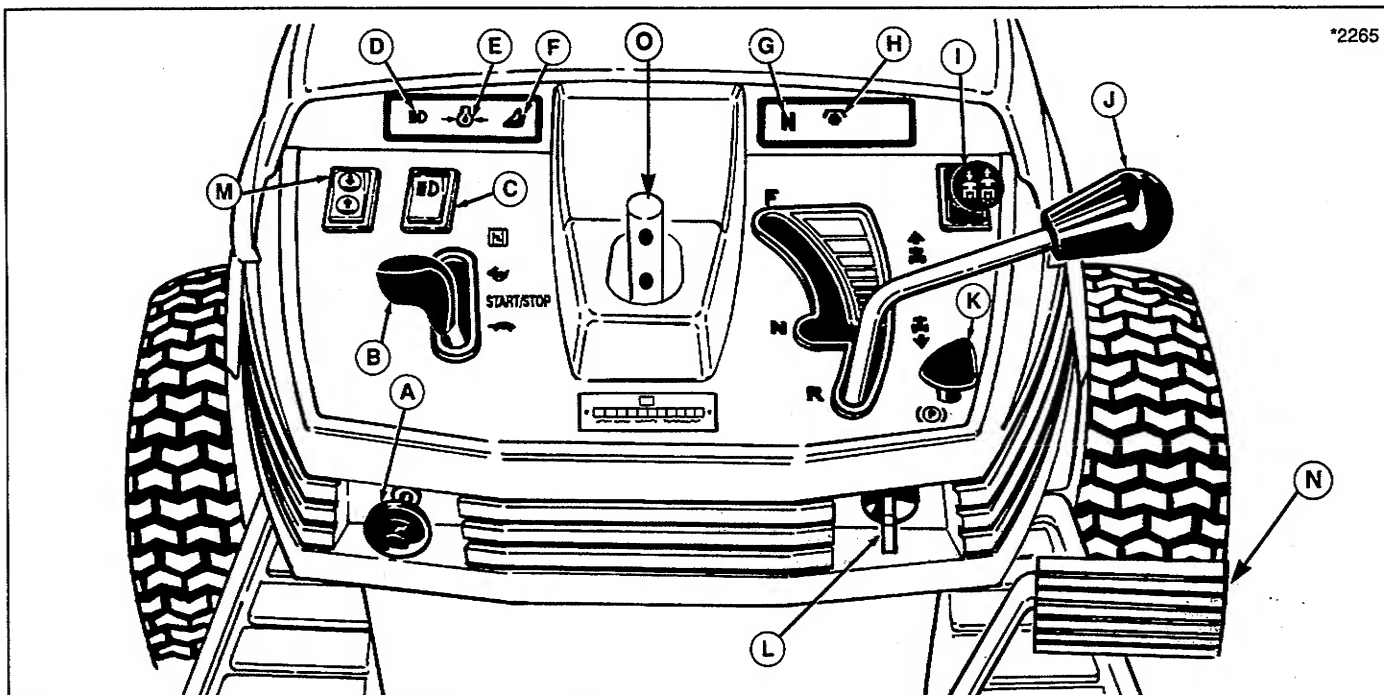
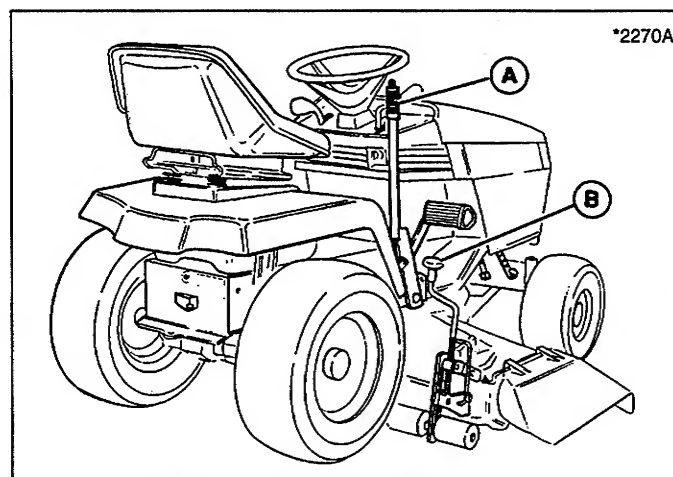
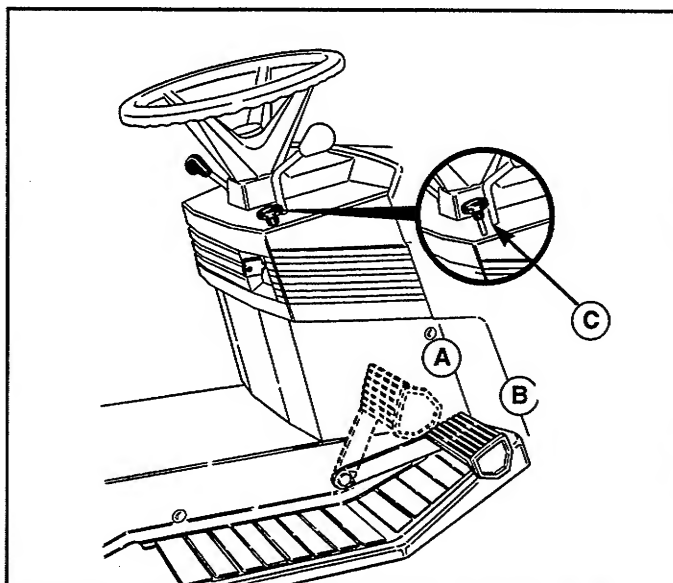
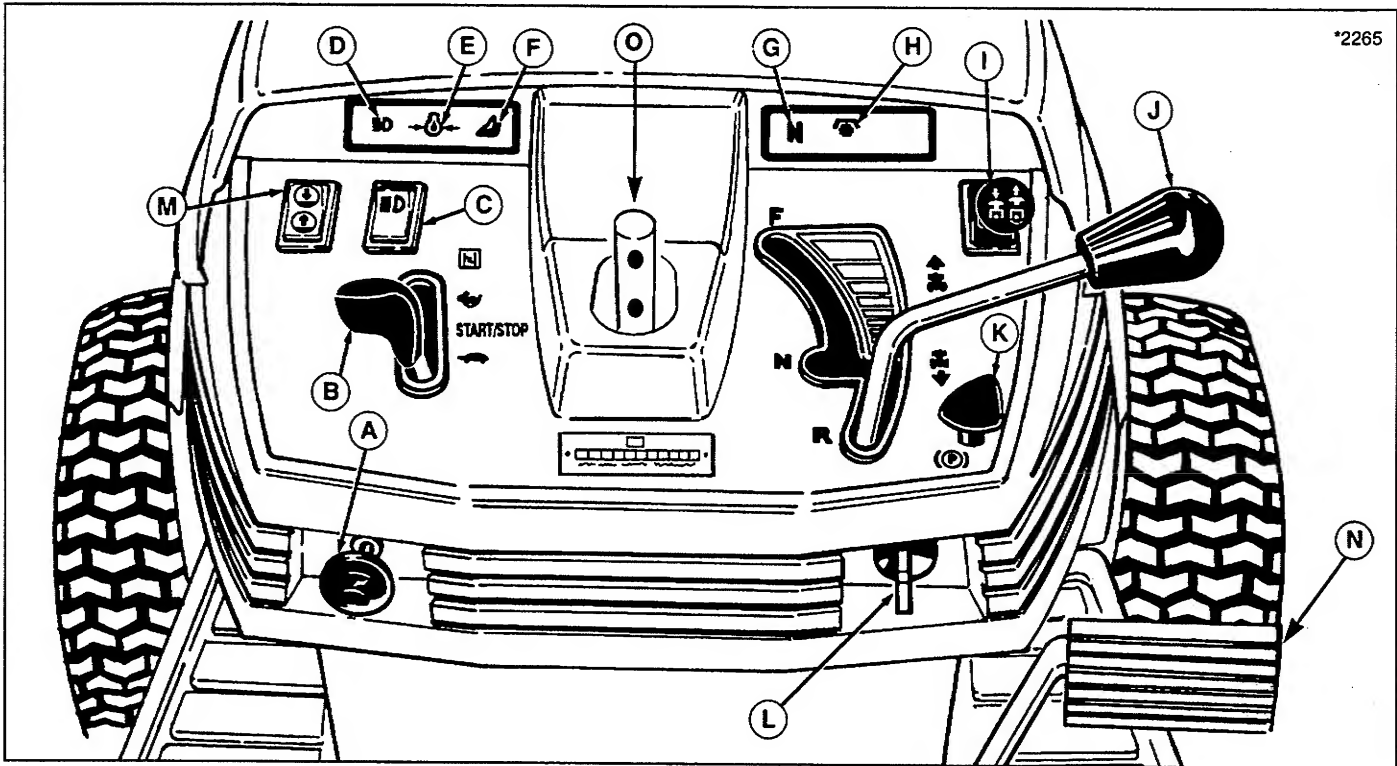

Figure 2. Tractor Controls (Hydro Model Shown)
Figure 10. Mower Operation - Manual Lift
Figure 11. Clutch/Brake Pedal and Parking Brake (Brake Pedal Only - Gear Models)
Figure 13. Tractor Controls (Hydro Model Shown)
- A. Neutral Indicator Light (G, figure 2) should go on with transmission lever in neutral gate and should go out when lever is moved to either the forward or reverse gate.
- B. PTO Indicator Light (H, figure 2) should go on and off with operation of PTO switch.
- C. Oil Pressure Indicator Light (E, figure 2) should be on and should go out immediately after engine starts.
- D. Operator Seated Indicator Light (F, figure 2) should go on when operator is present in the seat and should go off as operator rises out of the seat.
2. Place mower in the lowest cutting position using the mower height adjuster (B, figure 10). Place the mower lift lever (M, figure 2 or A, figure 10) in the lowest position, also. Slide mower deck under right side of tractor so that mower hitch is aligned with front tractor hitch.
- Place mower in the lowest cutting position using the mower height adjuster (B, figure 10).
- Place the mower lift lever (A, figure 10 or M, figure 13) in the lowest position.
- When traveling to or from the work site, fully raise the mower using the mower lift lever (A, figure 10 or M, figure 13). At the work site, lower mower using the lift lever.
- Use the mower height adjuster (B, figure 10) to set the proper mowing height. See Mowing Patterns & Tips section for cutting height recommendations.
1. See figure 11. Depressing the pedal to position A disengages the transmission drive and, when in a forward gear, returns the transmission control lever to neutral. Fully depressing the pedal to position B applies the tractor brake.
2. Parking brake is applied at pedal position B when parking brake control knob (C, figure 11) is pulled up with pedal fully depressed.
2. See figure 11. Depressing the brake pedal from position A to B applies the tractor brake. Parking brake is applied at position B when parking brake control knob (C) is pulled up with pedal depressed.
Refer to figure 13.
On hydro models, ground speed is infinitely variable according to how far the control lever (J, figure 13) is moved in the forward or reverse position.
On gear models, ground speed is selected by depressing the clutch pedal and moving the control lever (J, figure 13) to the appropriate gear selection.
1. If you are ready to mow, lower the mower from the transport position using mower lift lever (A, figure 11 or M, figure 13) and set the mowing height using the
mowing height adjuster (B, figure 11).
2. Set the engine speed control lever (B, figure 13) for full speed.
3. Use the PTO switch (I) to engage the PTO.
4. Release the parking brake by depressing brake pedal (N, figure 13) and pushing knob (K) down.
5. On hydro models, move the ground speed control lever (J, figure 13) to the desired direction and speed of travel to set the tractor in motion.
6. Adjust engine speed control lever (B, figure 13) to the desired speed. Between 3/4 and full speed is recommended for mowing.
1. **On hydro models,** move the ground speed control lever (J, figure 13) into the NEUTRAL position to make a gradual stop. To make a more rapid stop, depress the clutch/brake pedal (N, figure 13).
On gear models, press the clutch pedal (N, figure 13) down to disengage the clutch for a gradual stop. For a more rapid stop, press the brake pedal down to apply the brake while also depressing clutch pedal to disengage the PTO. Move the ground speed control lever to NEUTRAL before releasing the pedals.
2. Engage the parking brake by fully depressing brake pedal and pulling up on parking brake knob (K, figure 13).
3. Use the PTO switch (I, figure 13) to disengage the PTO.
4. Set the engine speed control lever (B, figure 13) to 1/2 throttle setting and allow the engine to idle for 20 seconds. Stopping a hot engine too fast may cause engine damage.
5. Turn key (L, figure 13) to OFF and remove it.
1. With engine off and key removed, use the PTO switch (I, figure 13) to disengage the PTO.
2. Place the mower in the transport position (up) using the mower lift lever (A, figure 10 or M, figure 13).